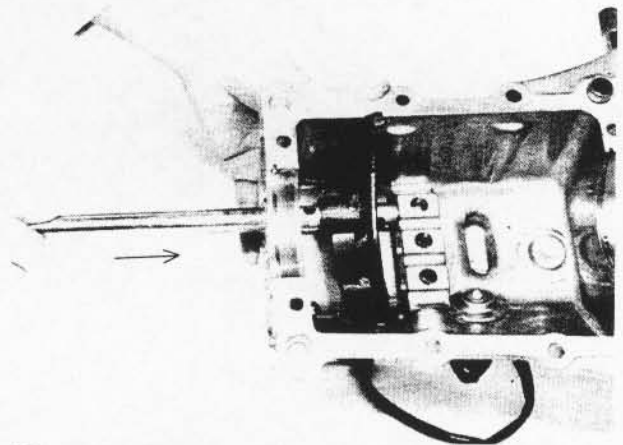

Fig. 13-66
2) Insert low speed gear shift shaft into upper case and low speed shift fork in the direction as shown in Fig. 13-66.